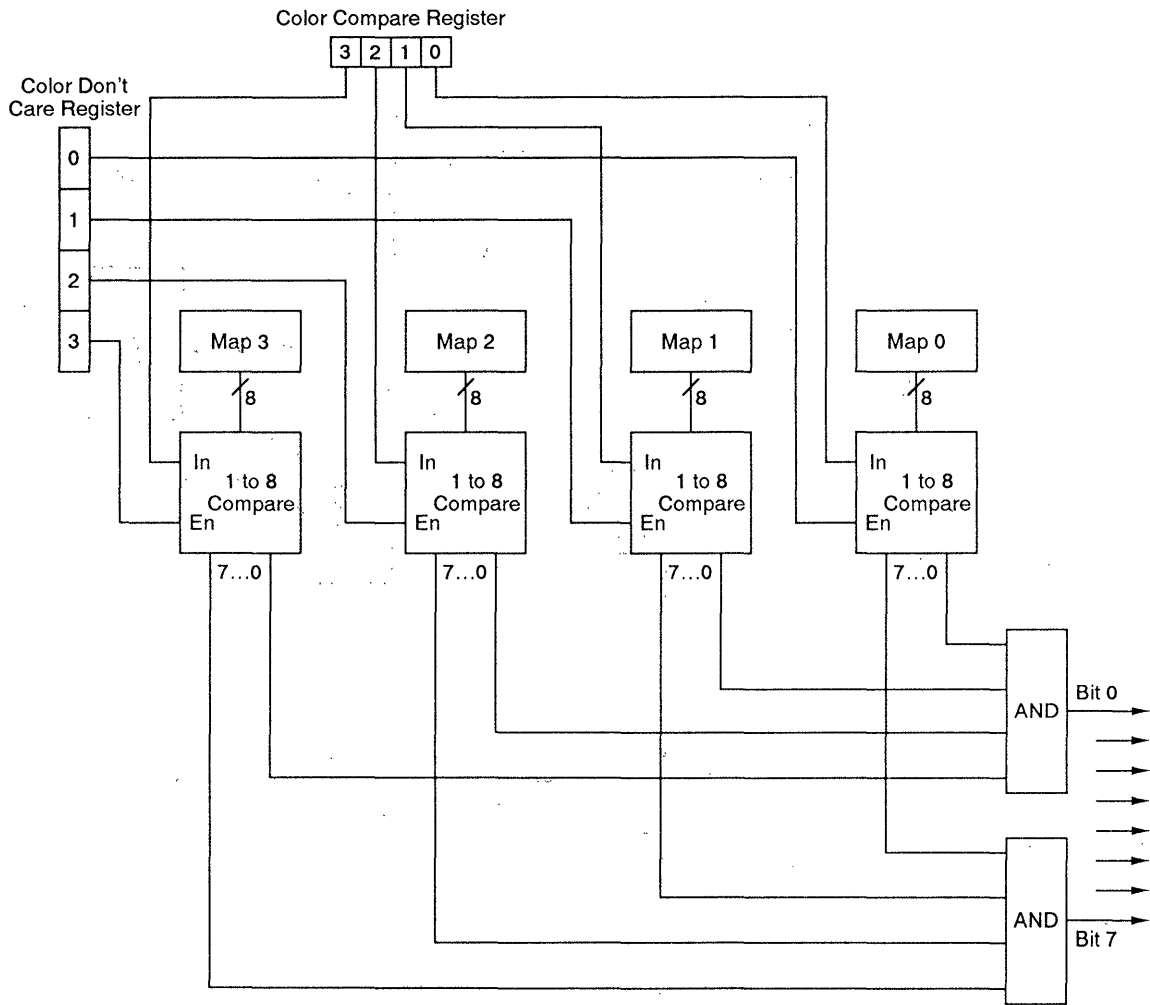

Fig. 3-10. VGA color compare data flow
2. When read type 1 is selected by the graphics mode register, the 8 bit value, which is the result of color compare operation controlled by the "color compare register" and the "color don't care register", is returned. The color compare operation is shown in Fig. 3-10.